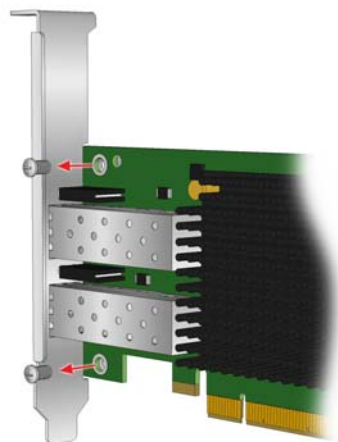

Figure 2-3 Removing the Bracket
4. Remove the mounting bracket screws from the top of the adapter. Figure 2-3 on page 15 shows the screws that are removed from the bracket.